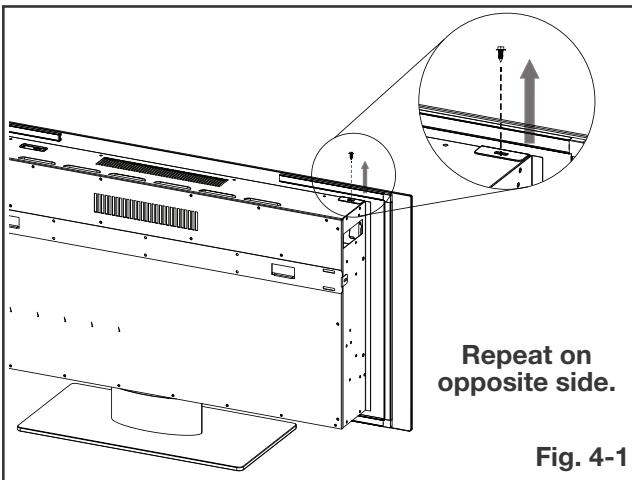

Fig. 4-1
- With one hand on the front surround to prevent it from falling, remove the two screws (1 per side) from the top of the appliance (**Fig. 4-1**). Set the screws aside.